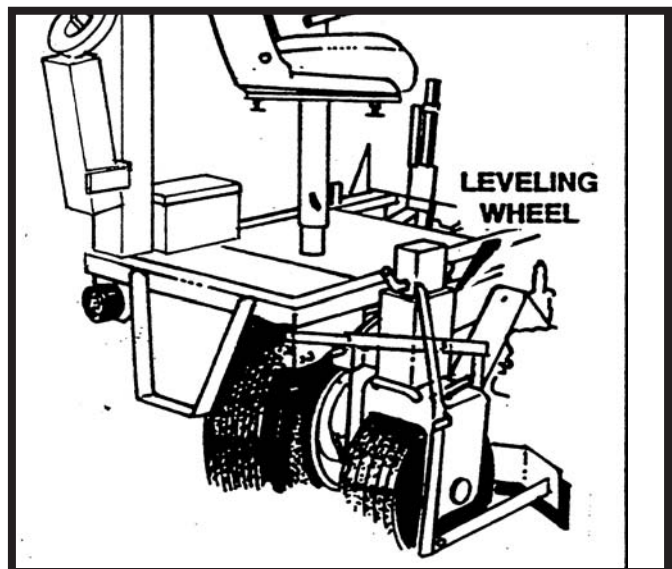

Figure 8
2. Place leveling wheel into operation. See figure 8.